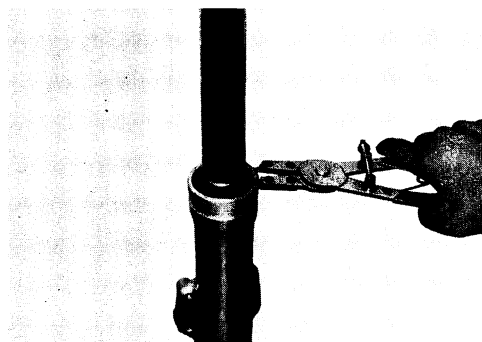

Fig. 5-33 Removing lower slide, circlip style (U.S. Suzuki Motor Corporation)
2. Remove the lower fork legs or sliders from the top tubes by taking off the retaining bolt, the attaching sleeve, or the circlip. Check your owner's manual to see which system your bike uses before removing the slider (Fig. 5-33).